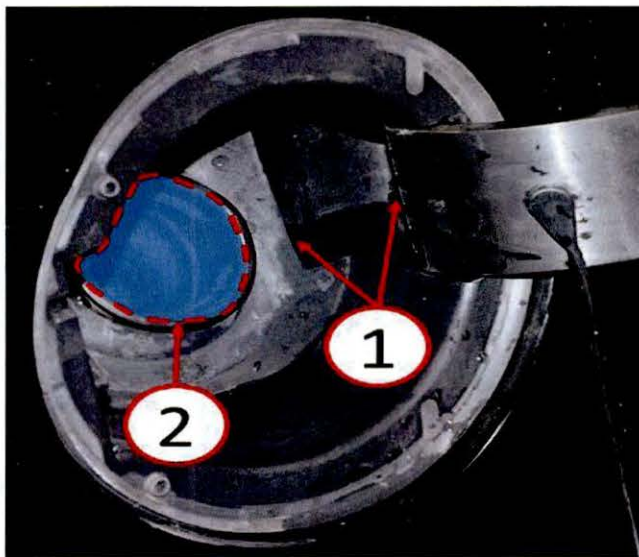

Fig. 3 Fuel Filler Hinge Pocket
15. Drill two 6mm (1/4") holes at the hinge pocket corner locations shown in (Fig. 3).